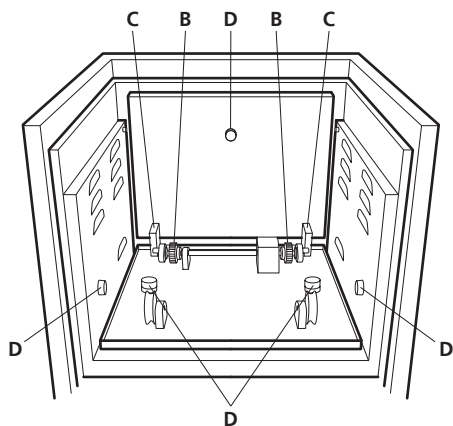

Figure 4: SI30H incubator
- 5.4 Place the rotisserie into the incubator onto the rotation mechanism, ensuring that the serrated bands at either end of the rotisserie locate onto the steel cogs of the rotation mechanism at the rear of the incubator (B on figure 4). The plastic flanges of the rotisserie locate on to the small wheels on the incubator floor. Close the incubator door.
- 6.2 Lift the platform by its handle (A on figure 4) from its storage position, slide it forward and locate it on the rocking mechanism by placing the side pegs of the platform into the retainers (D) on the side walls of the incubator chamber.